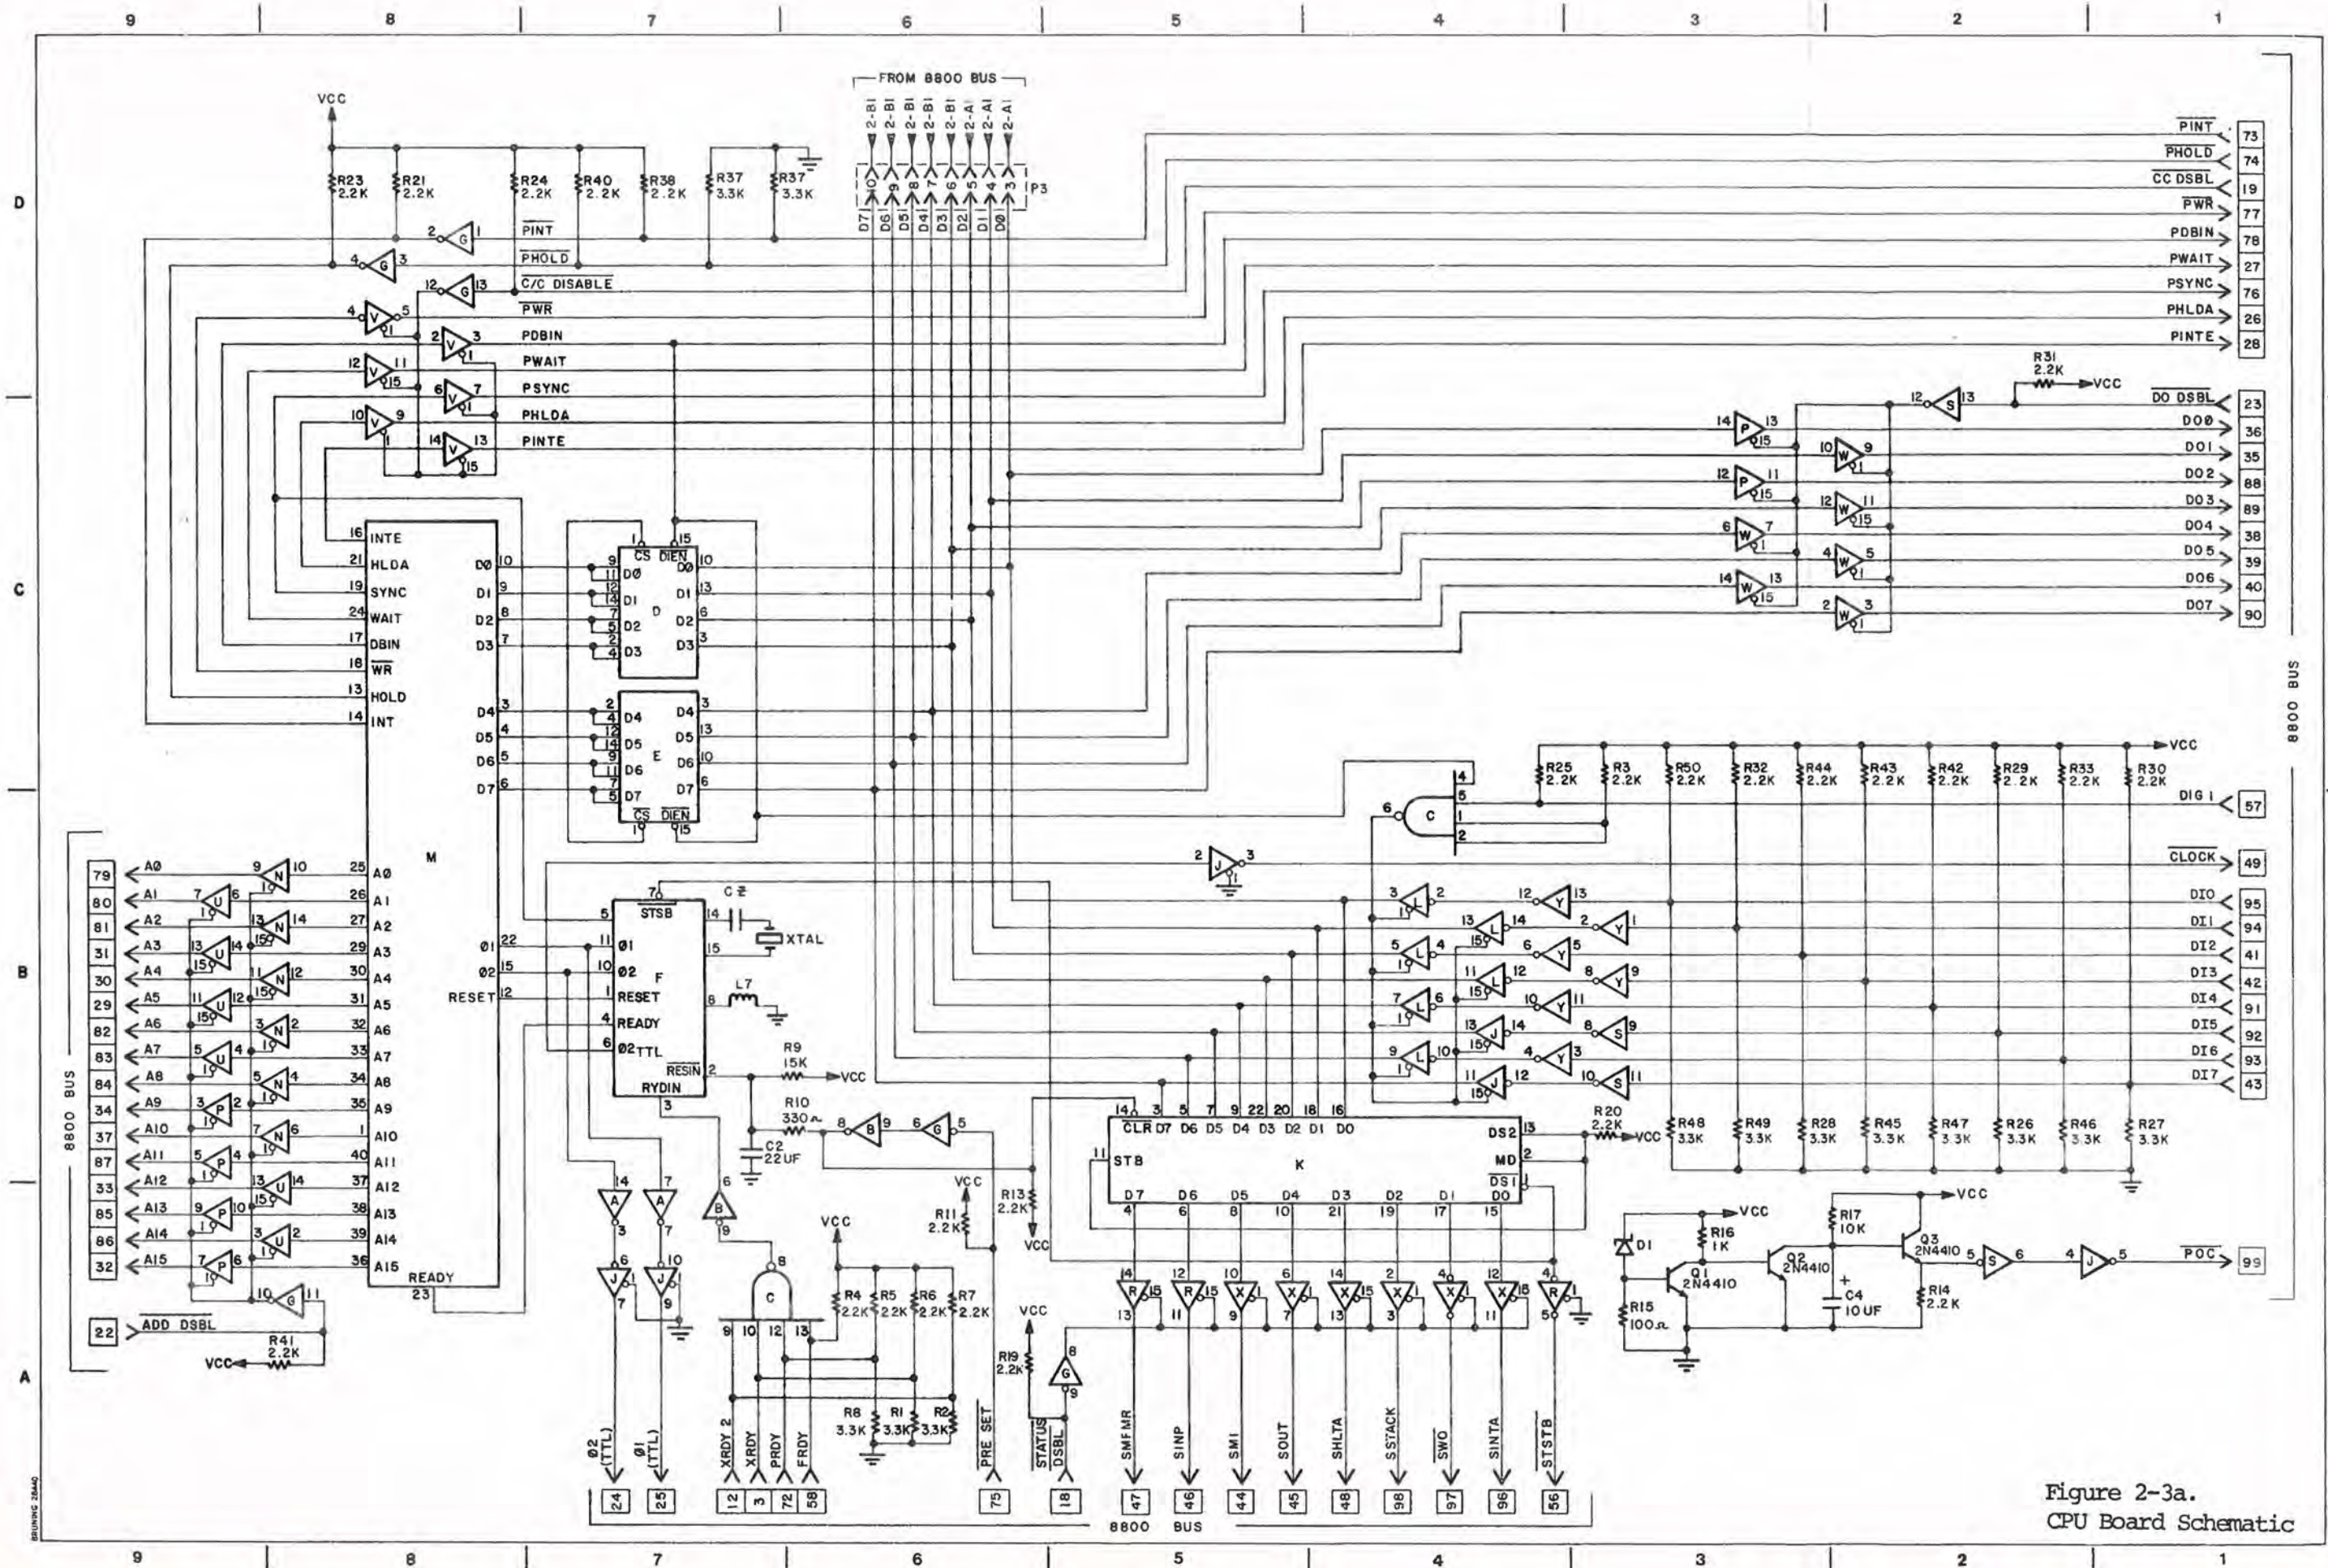

Figure 2-3a.
A. The Microprocessor. The 8080A is IC M on the schematic, Figure 2-3a. For a complete description of the internal organization and timing of the 8080A, see the IMSUM, Chapter 2.